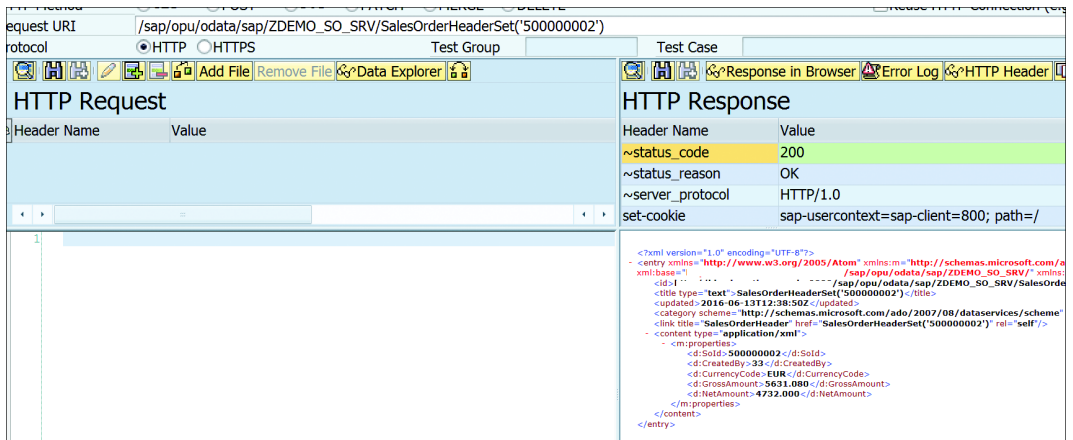

Figure 19.124 Reading Specific Record
- In Transaction `/IWFND/GW_CLIENT`, run the `/sap/opu/odata/sap/ZDEMO_SO_SRV/SalesOrderHeaderSet('500000002')` URI by passing a document number. This will call the `READ` method to fetch the details of the specific document, as shown in Figure 19.124.